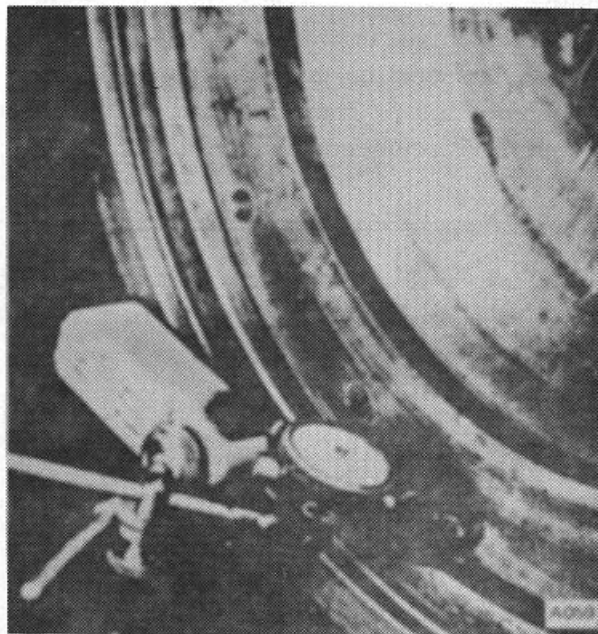

Figure 58.
2. The indicator should be set up so that it contacts the clutch face on the vertical surface of the clutch counterbore, then turn the flywheel one full revolution, at the same time holding against the crankshaft to offset the possibility of end play. Excessive runout of the flywheel in either position will probably be caused by dirt in, or damage to, the counterbore locating the flywheel on the crankshaft flange. Relocate the indicator to check the inside diameter of the counterbore. (Fig. 58) In both cases the maximum indicator reading must not be more than .008".